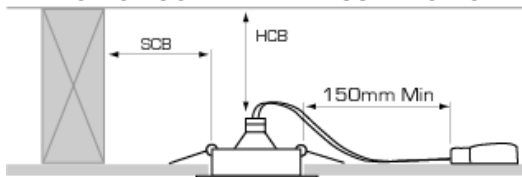

Fig 1.
1. Isolate power supply. Select required position for luminaire, ensuring the clearance shown in fig. 1 is observed. Beware of joists, water pipes and electric cables etc. Check 'Cut-Out' size against luminaire, cut hole into ceiling.